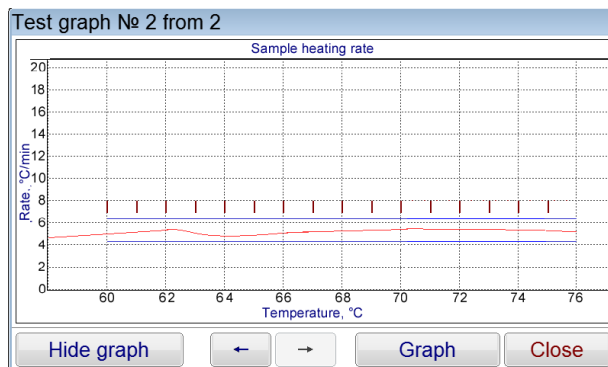

Figure 13 - The graph window of the ignition zone
4.6.4.3 Press **“Ignition zone”** button to view the graph within the range from the first to the last ignition (see figure 13).